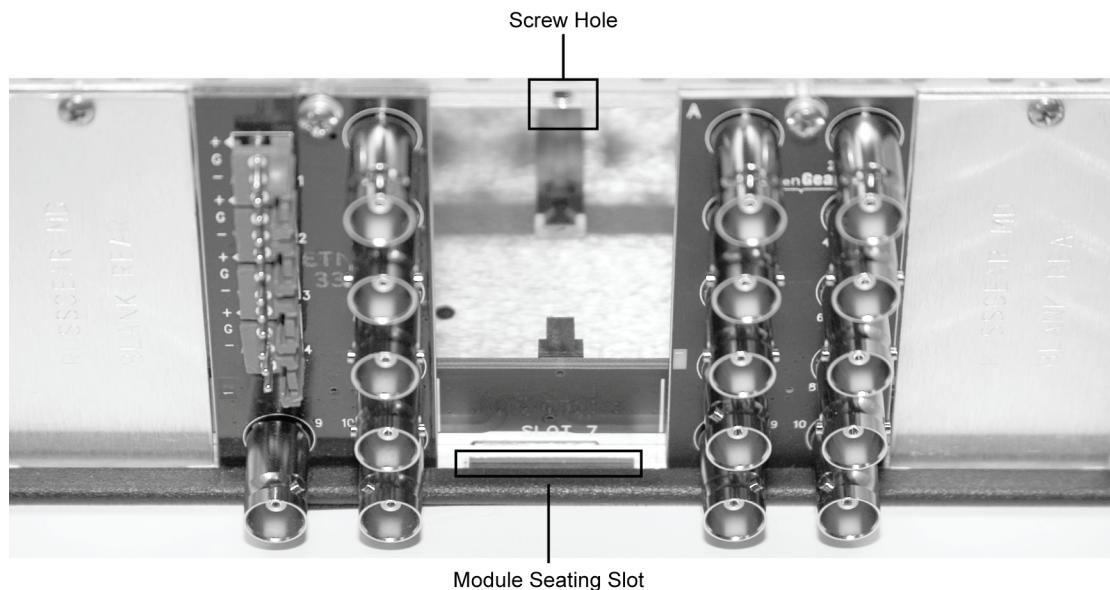

Figure 2. Rear Module Installation (SEA-8203A not shown)
4. As shown in **Figure 2**, seat the bottom of the rear module in the seating slot at the base of the frame's back plane.